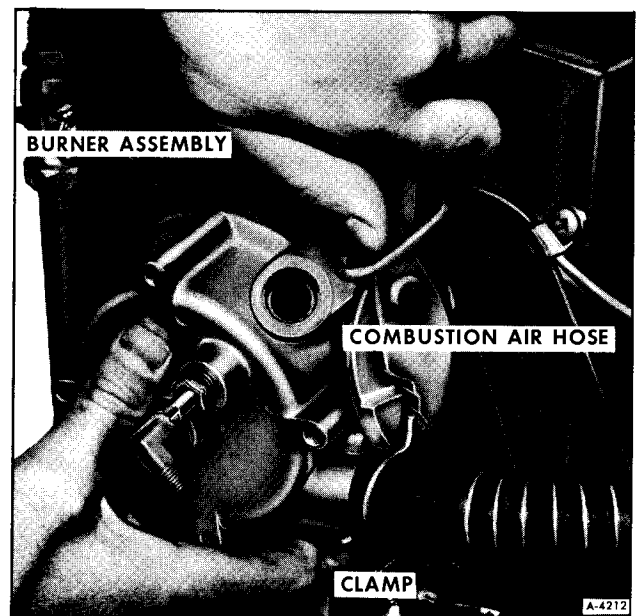

Figure 16—Removing Hose Clamp from Burner Assembly
4. Lift burner assembly away from combustion chamber. Then using hose clamp pliers, slide clamp about 1" away from burner along tube (See figure 16).
1. Position burner assembly at opening in combustion chamber. Install combustion air hose and clamp (See figure 16).